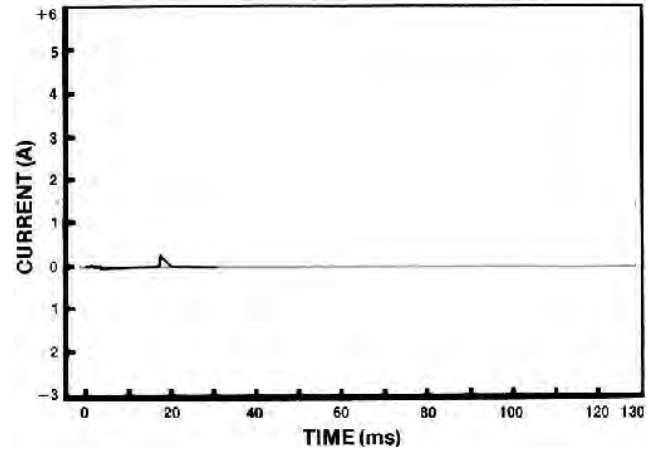
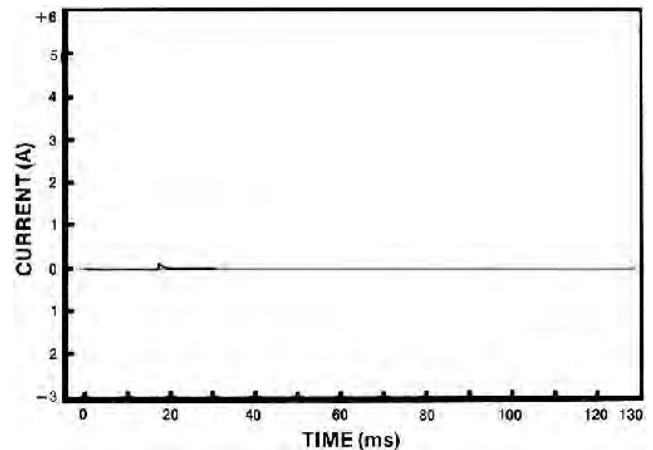

FIGURE 2. Current Delivered to a Well-Grounded Cow Touching a 5.4 km Well-Insulated Fence.
FIGURE 3. Current Delivered to a Normally-Grounded Cow Touching a 5.4 km Well-Insulated Fence.
**Electrical Charge:** FIGURES 2 and 3 show the current output of the Shur Shock 6 Volt Electro-Mechanical when a cow touches a 5.4 km length of well-insulated, single wire, fence. FIGURE 2 is for an animal resistance of 0.5 k $\Omega$ , which represents the most extreme condition of a cow standing in water and licking the charged wire, while FIGURE 3 is for an animal resistance of 4 k $\Omega$ , representing more normal ground conditions. The shock intensity is related to the peak current in the pulse; the higher the peak current, the more intense will be the shock.